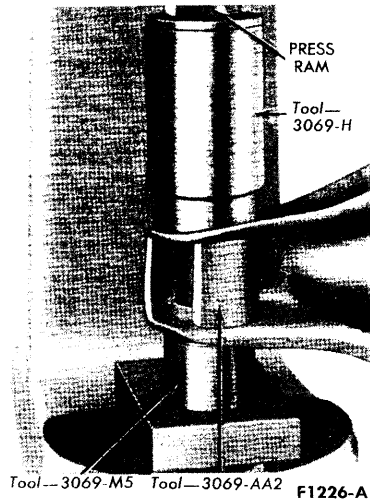

FIG. 8—Installing Lower Arm Bushing
4. Press the bushing into the arm until the shoulder on the bushing shell seats against the arm. Use tool 3069—details H, AA2, and M5 (Fig. 8).